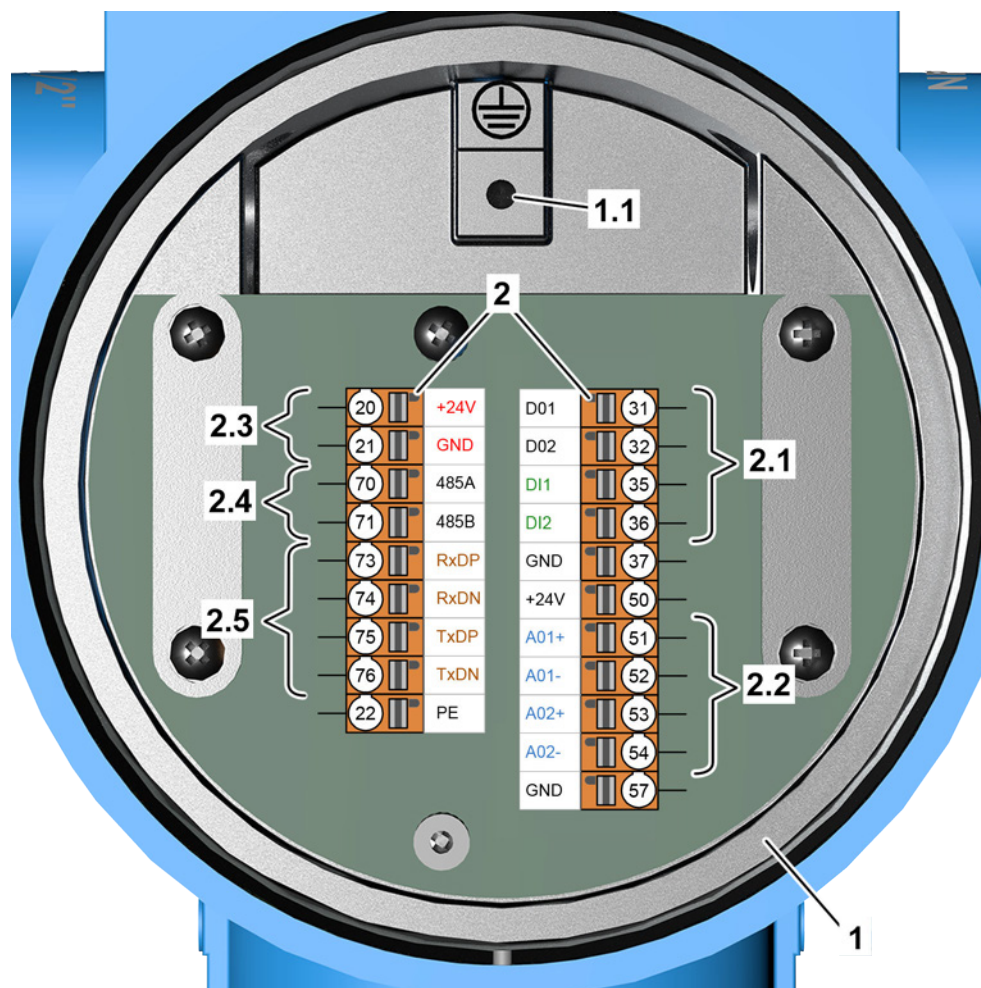

Fig. 7: Wiring diagram for RHE42-R* Coriolis transmitter (not intrinsically safe)
- 1.** ➤ Remove the cover (D) from the RHE42 Coriolis transmitter (A), for example using a strap spanner.
- 2.** ➤ Undo the screws (C) and remove the cover plate (B) (only for intrinsically safe inputs and outputs).
- 3.** ➤ Screw the appropriate cable glands (NPT ½ inch with Ex e or Ex d approval if the device is being installed in an Ex zone / Div.) into the openings (arrows) of the RHE42 Coriolis transmitter (A) (the cable gland is not included in delivery).
- 4.** ➤ Guide the cable through the cable glands and into the RHE42 Coriolis transmitter (A).
5. ➔ Connect the wires to on the RHE42 Coriolis transmitter (A):
- ➔ Figure 7: Wiring diagram for the RHE42-R* \(not intrinsically safe\)